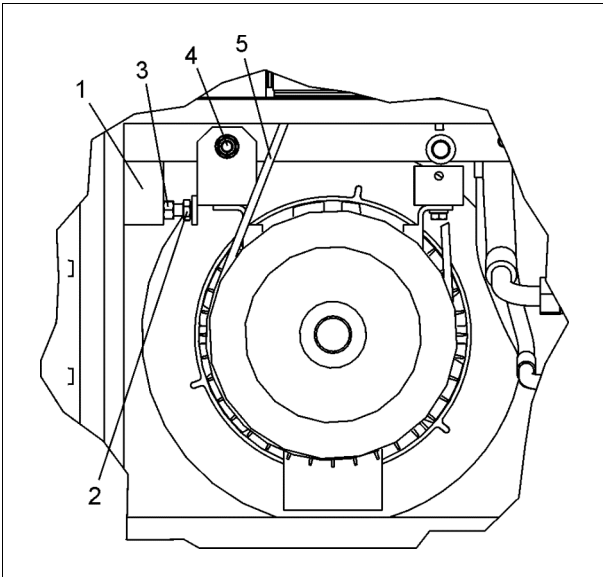

Fig. 22
The V-belt preload needed is specified by the weight of the motor, which is mounted in a rotary fashion (- 4 - Fig. 22).
- Lift the motor by turning the motion screw (- 2 - Fig. 22) counterclockwise until the V-belts are released
- Replace the V-belt set (- 5 - Fig. 22)
- Screw the belt adjusting bolt back until it reaches the lock nut (- 3 - Fig. 22). Tighten lock nut on holder (- 1 - Fig. 22).